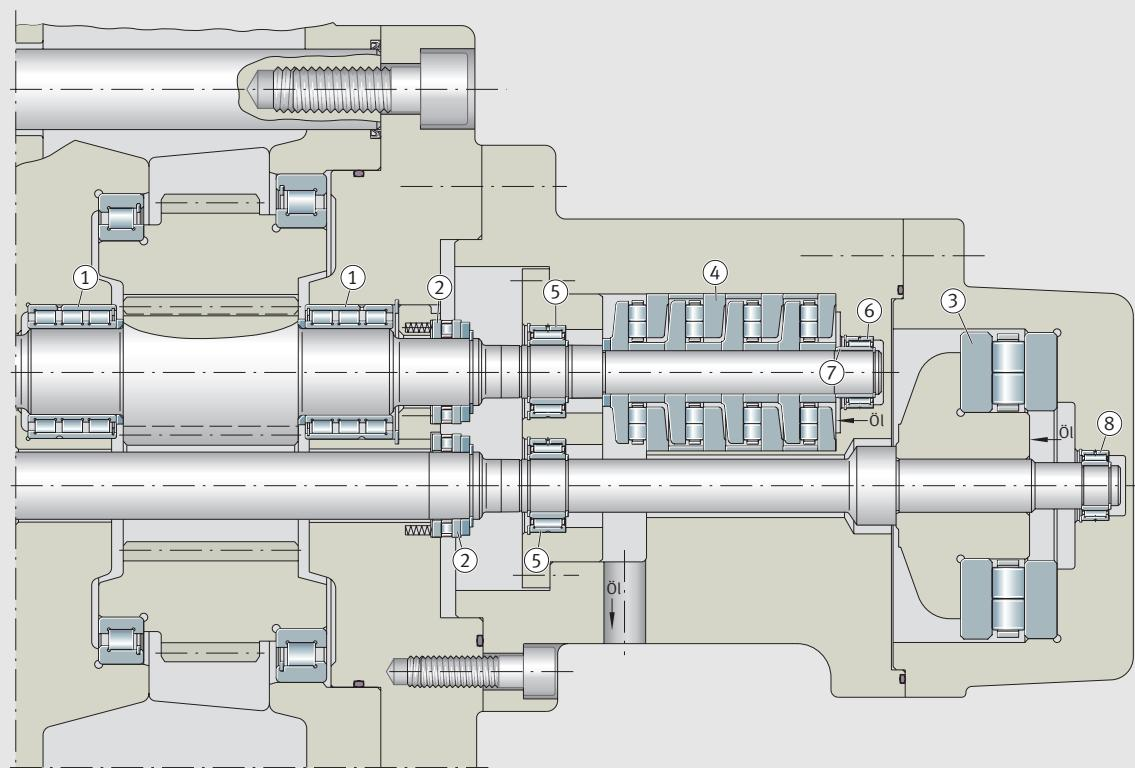

Figure 5 · Twin screw extruder gearbox
- with radial guidance, for example by means of needle roller bearings, *Figure 5*, page 4
#### Design solution, *Figure 5*